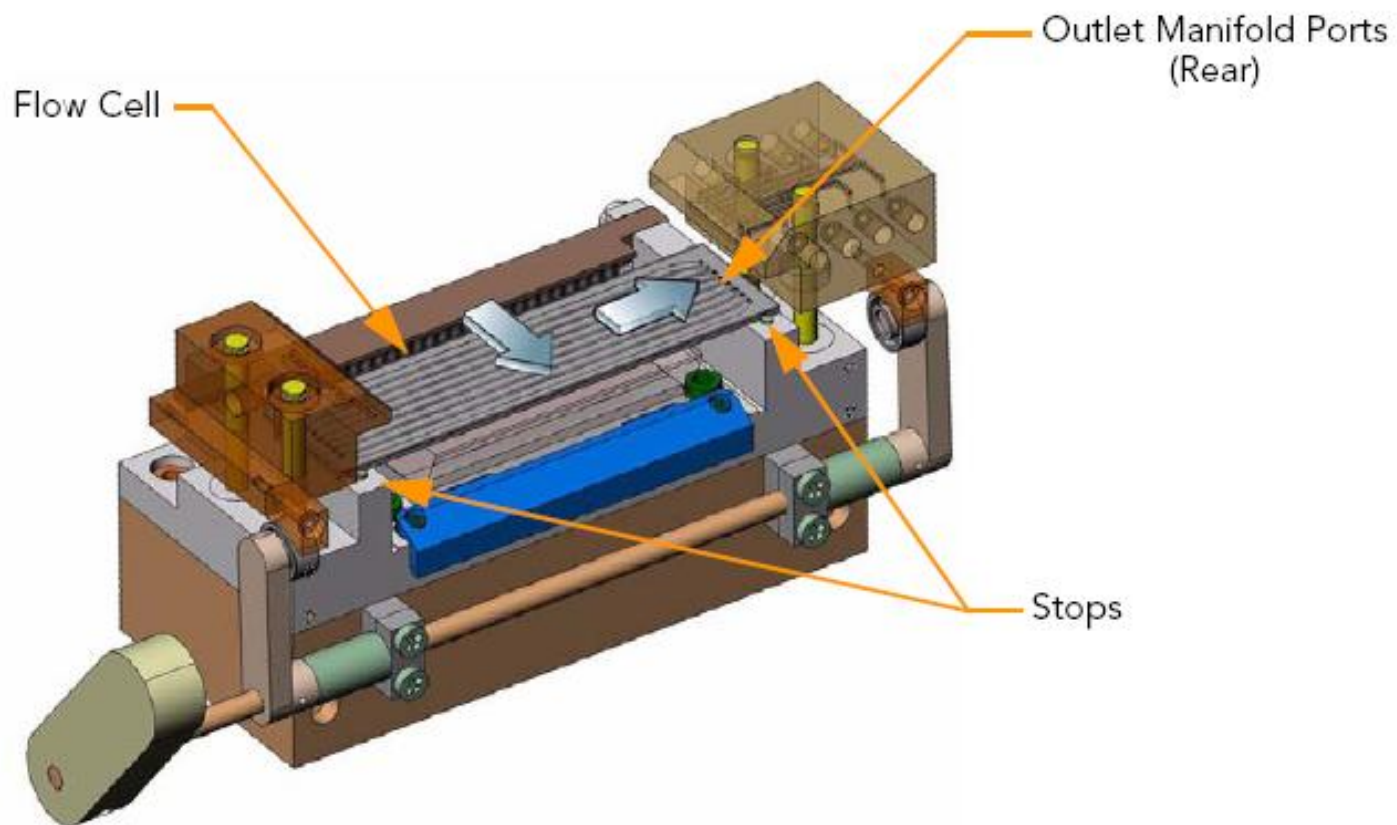

Figure 56 Positioning the Flow Cell
2. Slide the flow cell to the back until you encounter the rear stop (Figure 56).